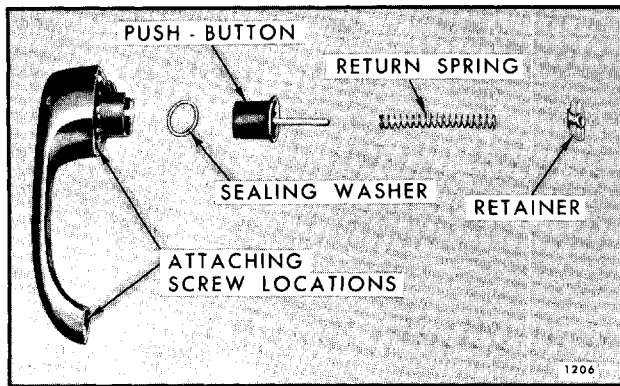

Fig. 5-47 - Outside Push-Button Handle Disassembly
2. Depress retainer slightly and rotate 1/4 turn in either direction. Remove retainer, spring, push-button and shaft and sealing washer from handle (refer to Fig. 5-47).